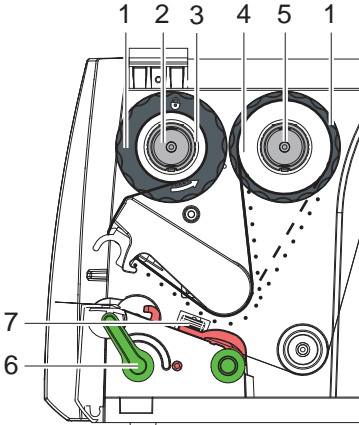

Fig. 12 Transfer Ribbon Feed Path
5. Adjust position of the guide on the take-up hub to the width of the ribbon core (3) and push ribbon core on the take-up hub.
6. Guide transfer ribbon through the printing unit as shown in Fig. 12.
► **Guide transfer ribbon over the label sensor (7).**
7. Secure starting end of the transfer ribbon to the ribbon core (3) using adhesive tape. Ensure counterclockwise rotation direction of the transfer ribbon take-up hub.
8. Turn transfer ribbon take-up hub (2) counterclockwise to smooth out the feed path of the transfer ribbon.
9. Press printhead down and turn lever (6) clockwise to lock printhead.